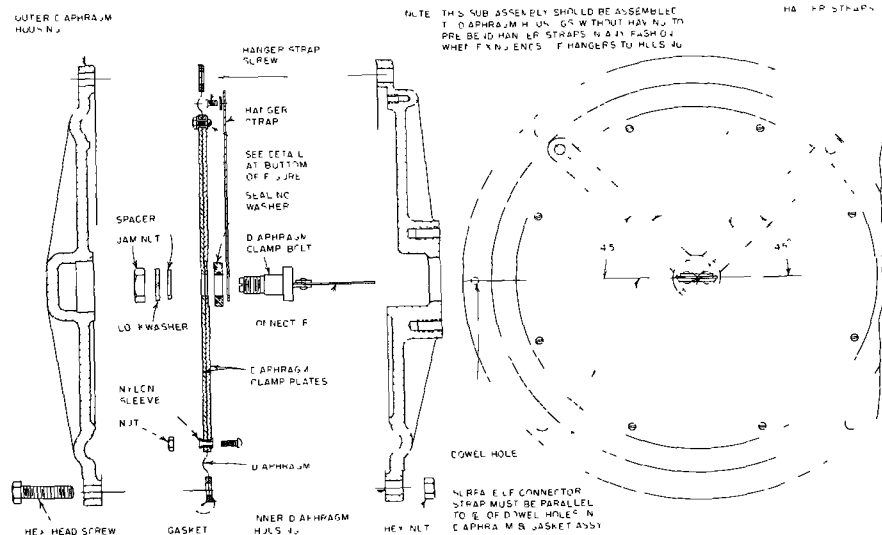

FIGURE 16 - Measuring Diaphragm, Type BK7 Transmitter
c. Adjust center line of vane to coincide with vane adjustment screw by loosening screws (52) and positioning vane.
d. Adjust vane to be parallel to fulcrum surface with vane adjustment screw (37). Turn on supply air and readjust vane adjustment screw so vane is parallel to force beam and/or restoring beam. (Output pressure should be 3.0 psig; zero adjusting spring coils must not be touching.)
14. To check if diaphragm center assembly is canted within diaphragm housing, or center assembly clamp plates are touching over-pressure stops (refer to Figure 16):
a. Do not disconnect diaphragm center assembly (Figure 16) from Transmitter.
pressure stops. As an alternate procedure, lay a straight edge across faces of diaphragm housing, and measure if distances from periphery of diaphragm clamp plates (Figure 16) to straight edge are about equal
a. Loosen jam nut; then reposition hanger straps as shown in Figure 16. Tighten jam nut to torque of 20 ft-lb